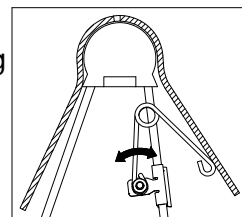

Figure E2: Cutaway view of driver side pivot arm and saddle.
2. Adjust the resting angle of your coupler plate by rotating the spring on the driver side pivot arm. Pulling the top of the spring away from the cab will increase the angle of the coupler plate. Set the angle of the coupler so that head will tilt away from the cab when coupling, see Figure E2. Tighten the 1/4" nut once the spring's orientation is set.